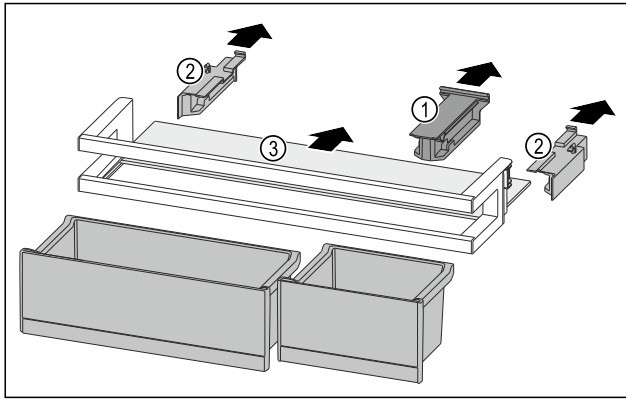

Fig. 90
- Pull off the holding part Fig. 90 (1).
- Pull off the side parts Fig. 90 (2).
- Remove the shelf Fig. 90 (3).